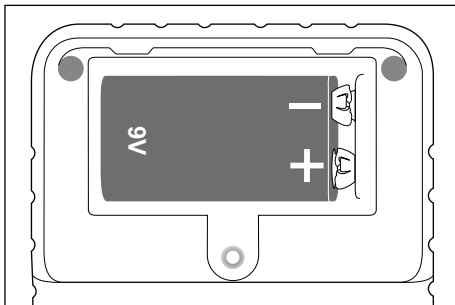

Fig. 2
- 2) Connect the 9 V block battery with the correct polarity (observe + and -) to the battery clip and place the 9 V block battery in the battery compartment (see Fig. 2).